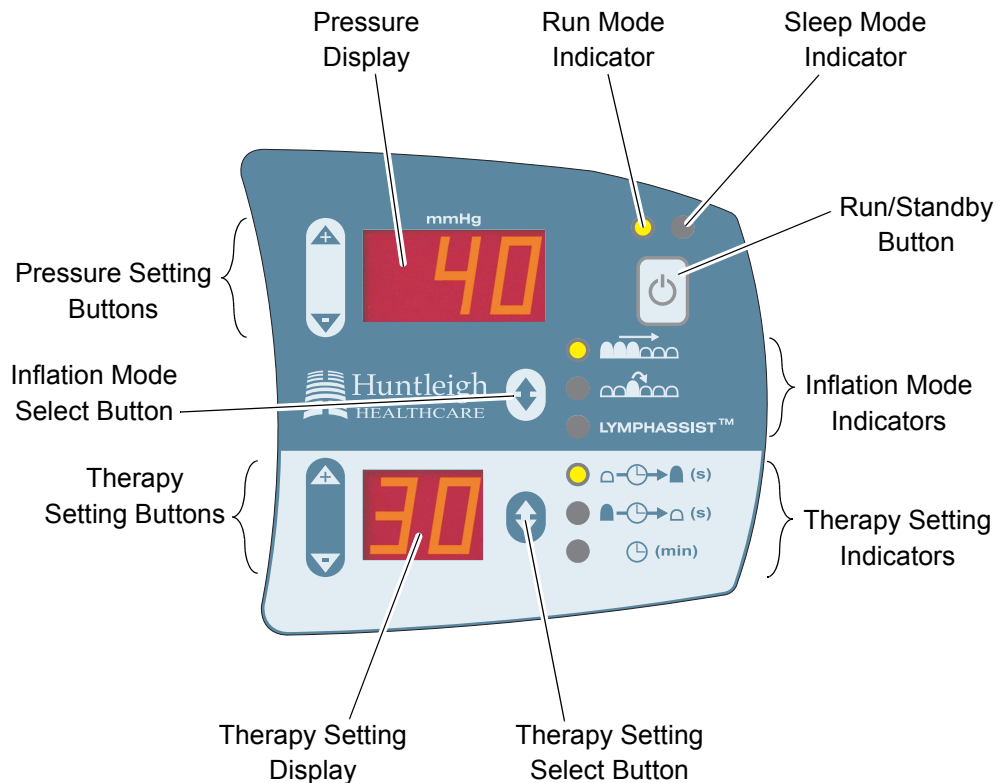

Figure 9 - Typical Control Panel Display in Run Mode
1.1 The controls and indicators are located on the control panel (refer to Figure 9).